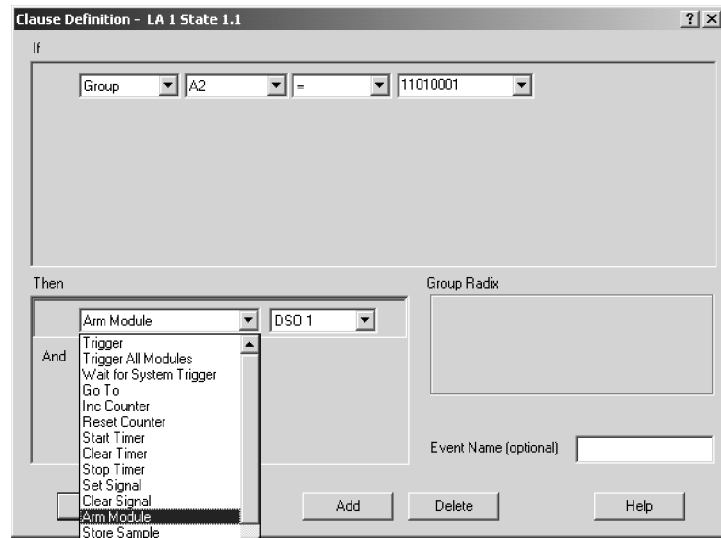

**Figure 3-31: Clause Definition dialog box (Trigger Actions list box)**
**Trigger Actions.** After defining the events in the If (event) portion of the clause, you can select one or more trigger actions to complete the clause. Figure 3-31 displays the Clause Definition dialog box with the trigger Resources list box selected. Table 3-6 lists the trigger actions available for your trigger program.